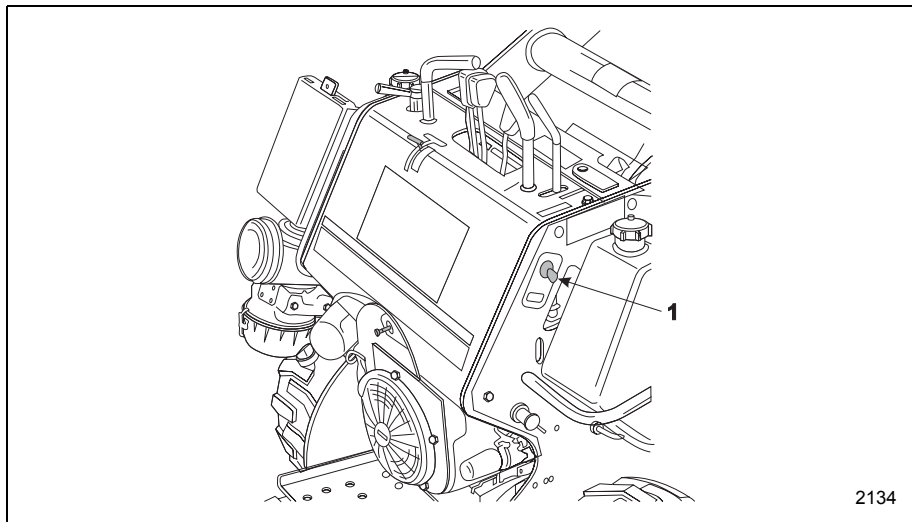

Figure 3-9 Engine Keyswitch
4. Rotate and hold the start switch (Item 1, Figure 3-9) in the START position until the engine starts.